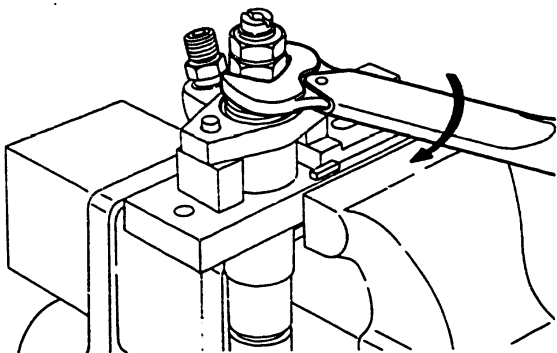

**Fig. 39 Shim and second pushrod installation**
3. Install the pre-lift adjusting shims (9), selected in Step 2 - 10, in the nozzle holder between the spacer (7) and the second pushrod (10). (Fig. 39).